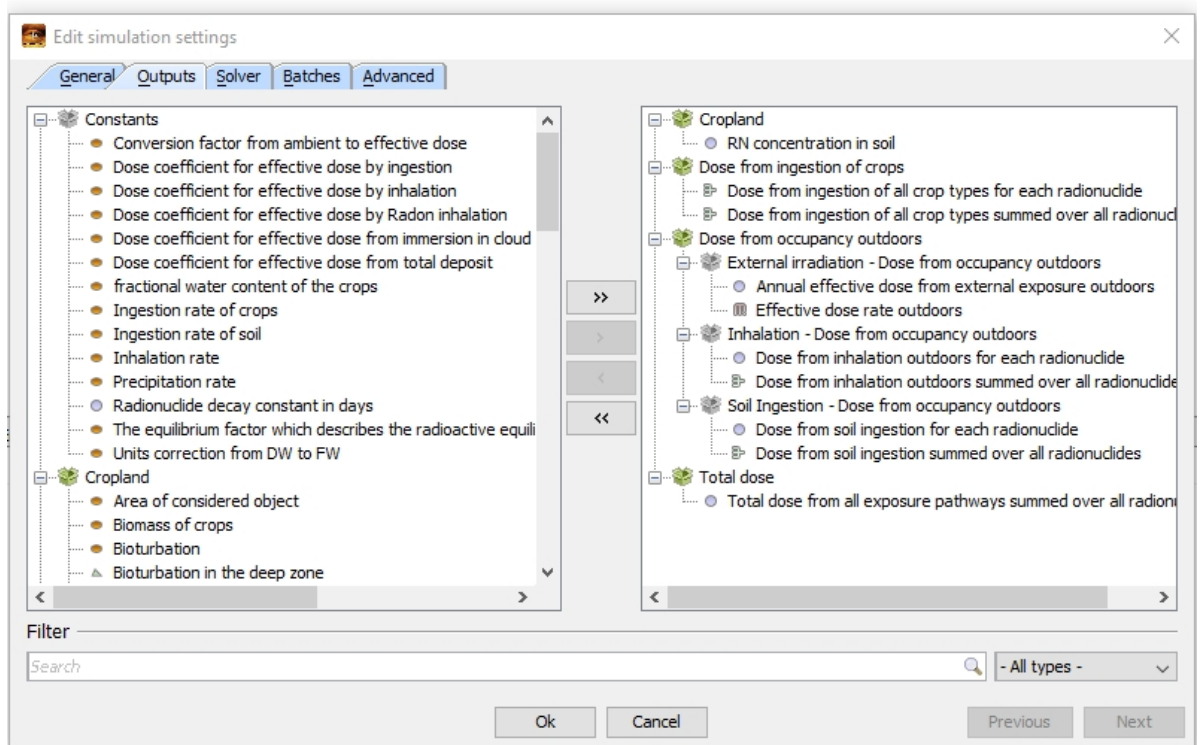

FIG 21. Adjusting the list of NORMALYSA model outputs.
9. The resulting ‘*Edit Simulation Settings*’ window with selected list of output parameters is shown in FIG 21. Press ‘*Ok*’ button to complete the process.